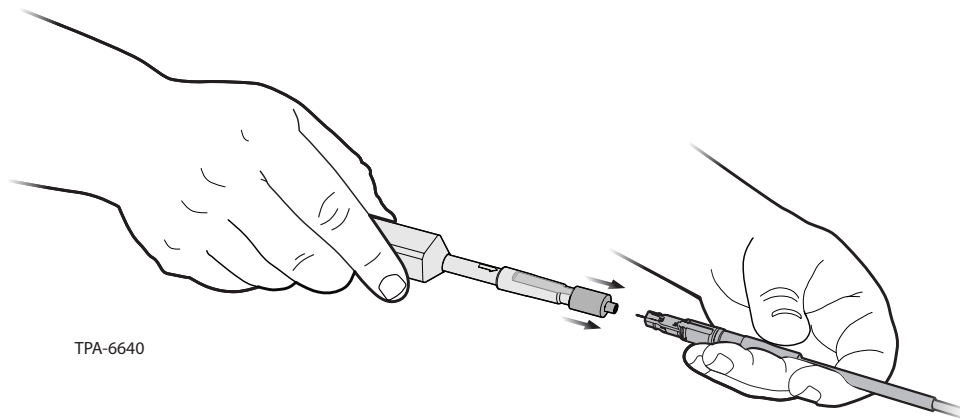

Figure 5
- a) Carefully insert the connector ferrule into the adapter of the tool until the tool butts against the end of the connector (Figure 5).